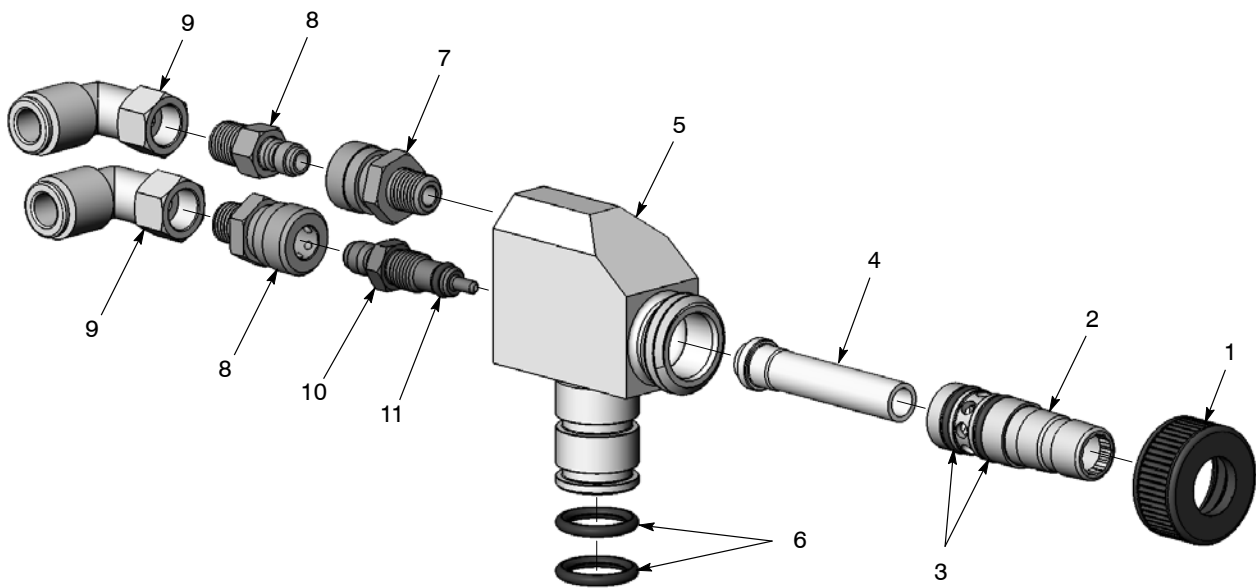

Figure 4 Corona Pump Parts
2. See Figure 4. Disassemble the pump and remove the O-rings and air couplings. Blow off the pump parts.
See Figure 4.